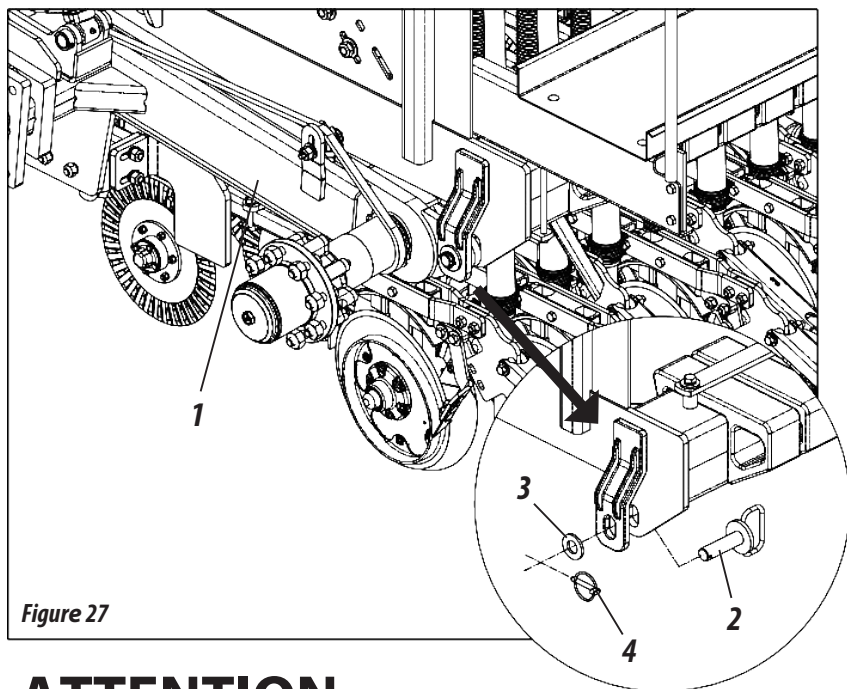

Figure 27
- 2- Then remove the pivot pin from the knob, as shown in figure 27, page 30.
- 3- Then lift the lines by fully activating the reach of the cylinders and place the lock (4) on the rods of the central cylinders (5) locking with the pin (6) and lock (7).
Failure to remove the bending pin of the ring bracket (Figure 27, page 30) before lifting the lines will cause damage to the seeder.
FIXATION AND WHEEL ARTICULATION SYSTEM (FIGURE 27)